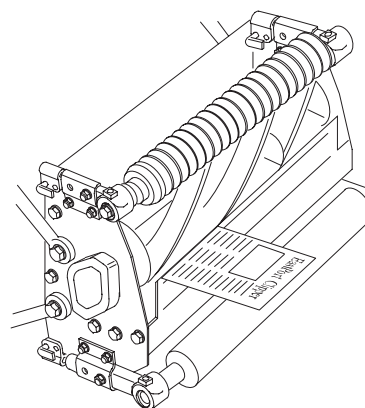

Figure 4
2. Set the cutting unit as shown in Figure 4. Do not rest the cutting unit on the bedknife adjusting knob as this will affect the reel to bedknife clearance. Place a block of wood under the round cross tube to hold the adjustment knob above the surface.
4. Insert a long strip of dry newspaper between the reel and bedknife (Fig. 4) at either end of the bedknife, and rotate the reel by hand. The paper should be cleanly cut. Repeat this procedure at other end of the reel. If the paper does not cut cleanly, tighten the bedknife adjusting knob a maximum of two clicks and check to see if paper is cut cleanly. If it is not, proceed to the next step.